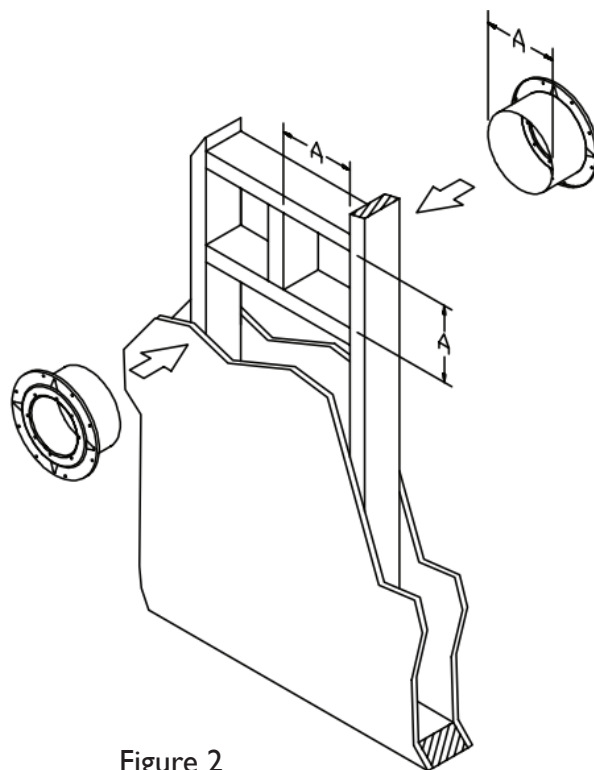

Figure 2
3. For a through-the-wall system, install the Wall Thimble, as shown in Figure 2. The Wall Thimble is designed to accommodate walls up to 6 inches thick. If you have thicker walls, a sleeve extension has been fabricated and attached to the existing sleeve. Do not fill the air space between the B-vent Pipe Section and the Wall Thimble with insulation, although an RTV-type sealant may be applied around the flange and nail heads if desired.